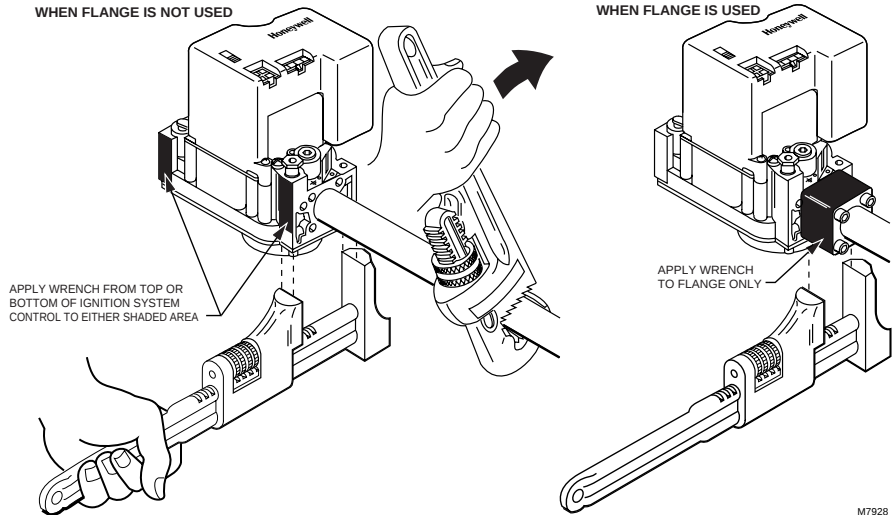

Fig. 5. Proper use of wrench on ignition system control with and without flanges.
- 6. Connect the pipe to the ignition system control inlet and outlet. Use a wrench on the square ends of the ignition system control. If a flange is used, place the wrench on the flange rather than on the ignition system control as shown in Fig. 5 and 6.